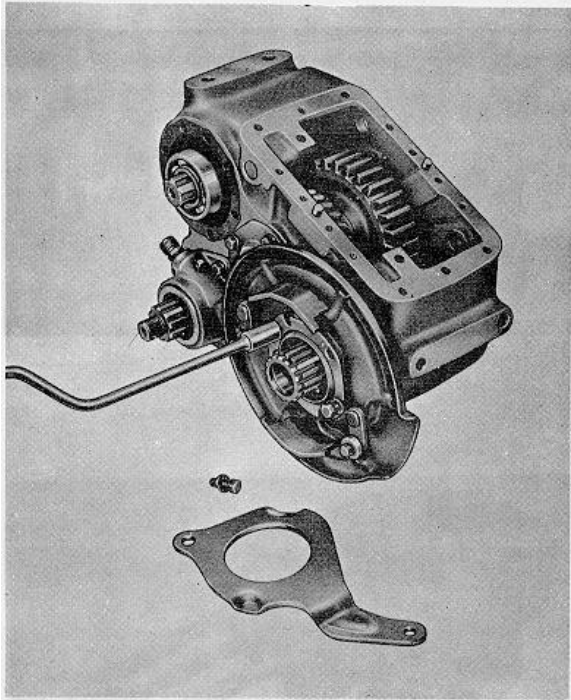

Fig. 11.
16. Remove mounting bolts and take off backing plate assembly with washer, deflector and gasket (Fig. 11).